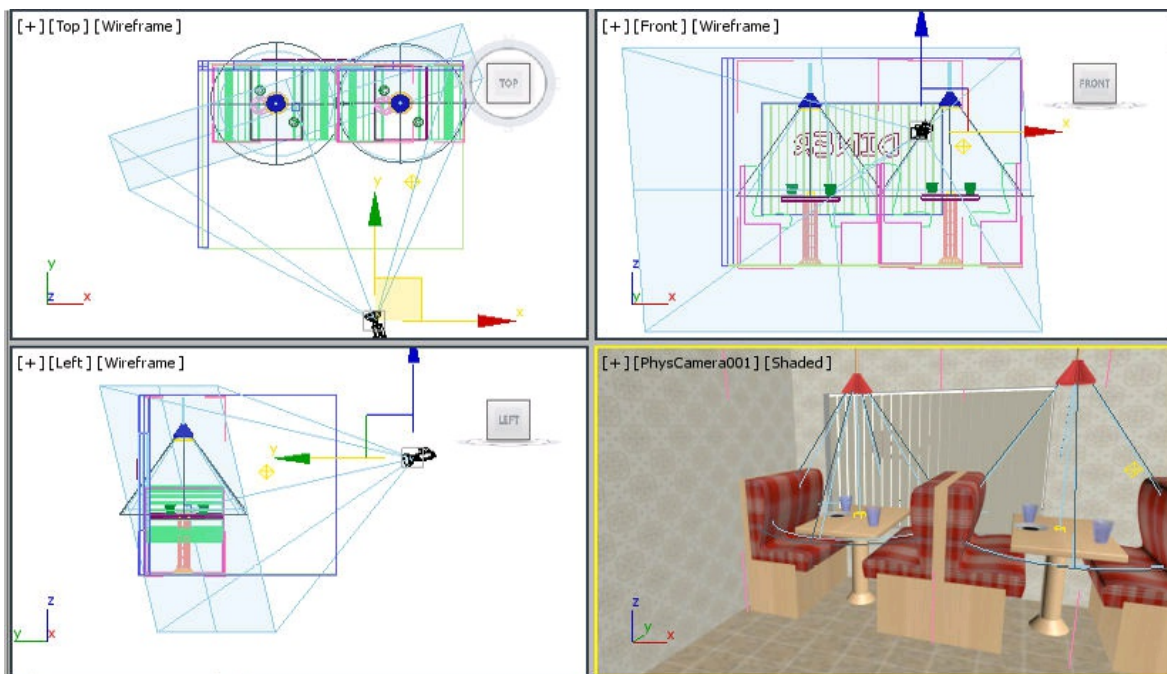

Figure P1-27 Aligning objects at the center of the PhysCamera001 viewport
5. Using the **Truck Camera** and **Dolly Camera** tools, adjust the camera in such a way that the edges of *wall01* and *floor* are not visible. Next, align the objects at the center of the PhysCamera001 viewport, refer to Figure P1-27.